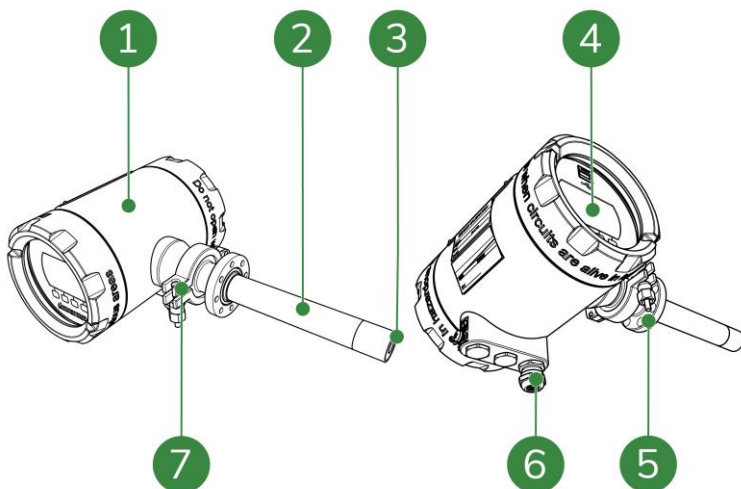
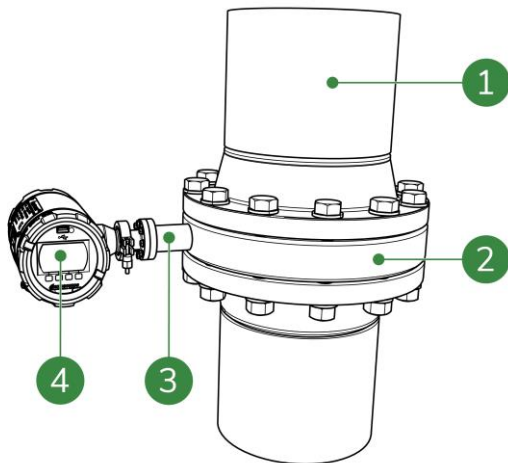

Figure 3-3: Components
Figure 3-4: Example of a SDM integrated within a vertical pipe system
The sensor surface (Figure 3-3, pos. 3) connects to components within the transmitter (Figure 3-3, pos. 1) for processing measurements.
The tri clamp (Figure 3-3, pos. 7) is pre-assembled and connects the sensor (Figure 3-3, pos. 2) to the transmitter (Figure 3-3, pos. 1).
The sensor (Figure 3-3, pos. 2) has a mounting flange (Figure 3-3, pos. 5) for mounting the SDM onto a pipe integration system (not shown).
The transmitter (Figure 3-3, pos. 1) houses cable connections and sensitive components on the inside. On the outside, the transmitter has a display (Figure 3-3, pos. 4) for presenting measurements.
The SDM is powered through an external power cable (not shown). The power cable connects to the SDM with a screw connector on the inside on the back of the transmitter (Figure 3-3, pos. 1). A cable gland (Figure 3-3, pos. 6) at the cable entry protects the inside of the transmitter (Figure 3-3, pos. 1) from moisture and dust.
All pipe integration systems have an adapter with a receiving flange. To mount the SDM, the sensor (Figure 3-3, pos. 2) slides into the adapter (Figure 3-4, pos. 3) after which the mounting flange is mounted onto the receiving flange of the adapter.
When the SDM (Figure 3-4, pos. 4) is correctly mounted onto the receiving adapter, the sensor surface will lay flush with the inner diameter of the connected pipes. This ensures reliable and consistent measurements.